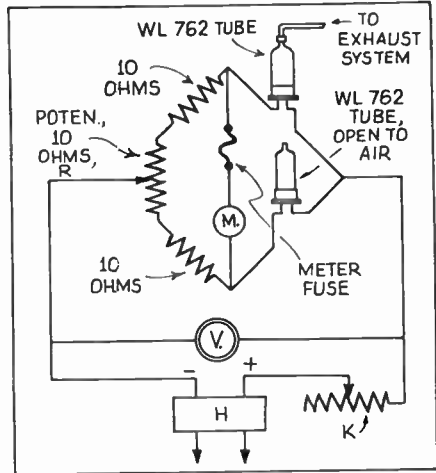

Fig. 6, Circuit for anti-surge tube.
**\*Supervisory Control Protector Tube; Type KX642.** Wherever protection against overload is desired, as for instance in radio transmitting stations for switching operations and wherever remote meter readings are taken, as well as in radio stations as a protection to condensers, transformers, and testing equipment, the "supervisory control tube" may be connected across the line and the 3rd connection grounded, as shown in Fig. 6 to serve as protection to equipment and operator in the event of surges exceeding 300 V.